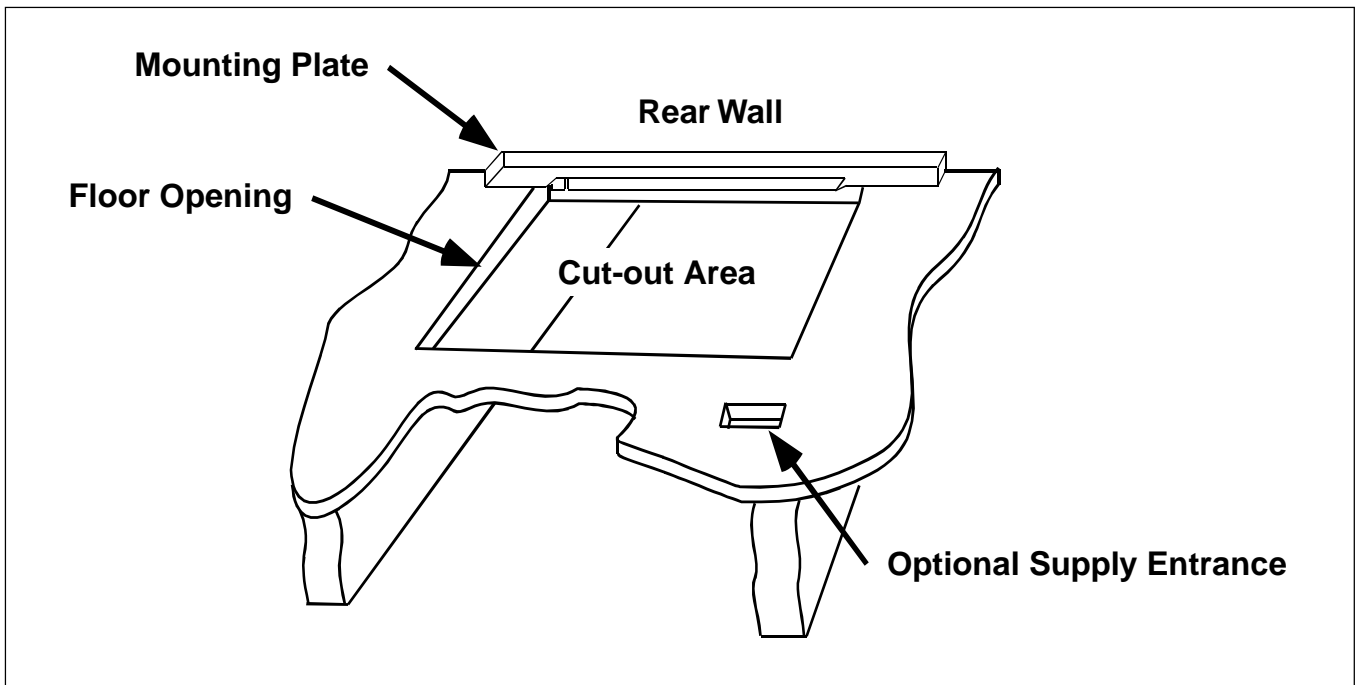

Figure 2. Rear Mounting Plate
3. Disregard figures 7 and 8 of the E2 Installation Instructions. Refer to figures 2 and 3 of this addendum for installation details of the 14" round plenum.